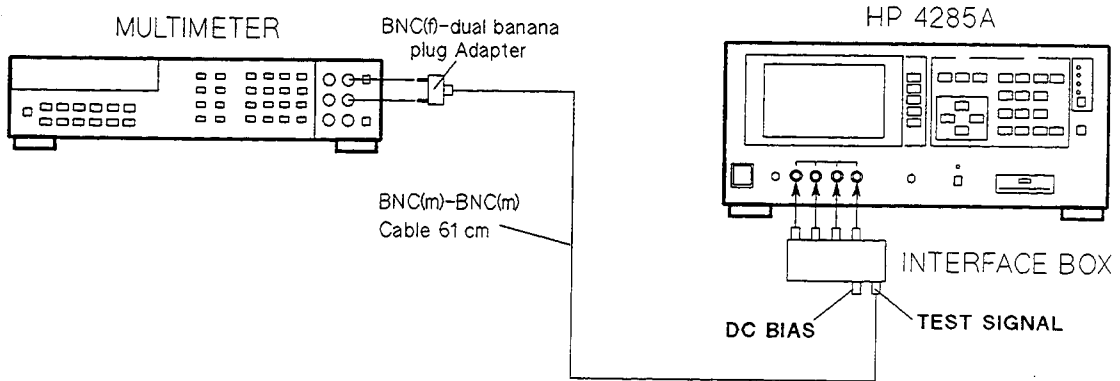

Figure 1-2. Test Signal Level Monitor Accuracy Test Setup using an Interface Box
1. Set up the equipment as shown in Figure 1-2.